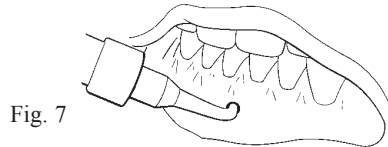

Fig. 7
5. Use the Chairside Lightcure Acrylic Resin Kit (Zest order No. 9403) to light cure bond the Locator Denture Cap Processing Male Assembly into the denture (Fig. 7 and 8), or mix a permanent self-curing acrylic and place a small amount in the recess of the denture and around the metal cap of the Locator Denture Cap Processing Male Assembly.